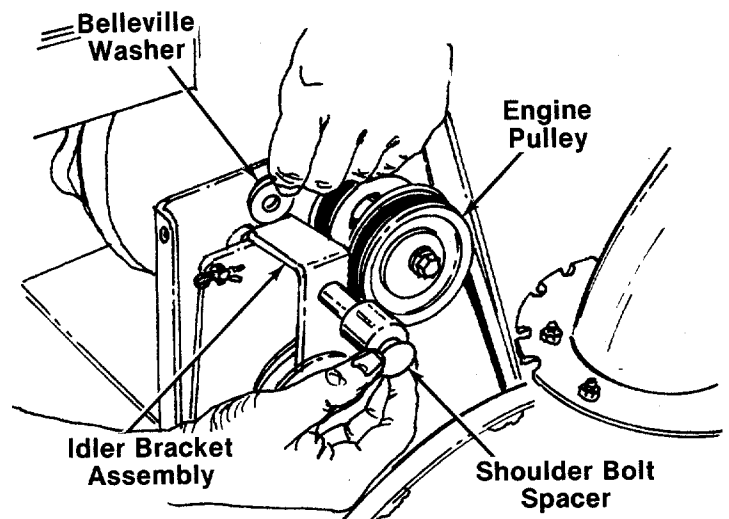

FIGURE 27.
3. Remove the large shoulder bolt and spacer on the right hand side of the engine pulley with an adjustable wrench. Remove the shoulder bolt and spacer from the idler bracket assembly with one hand. Use the other hand to catch the belleville washer which is on the shoulder bolt between the idler bracket and engine plate. See figure 27.
12. Reassemble the large shoulder bolt, spacer and belleville washer as shown in figure 27. Belleville washer goes on shoulder bolt between the idler bracket assembly and engine plate (cupped side toward engine plate)